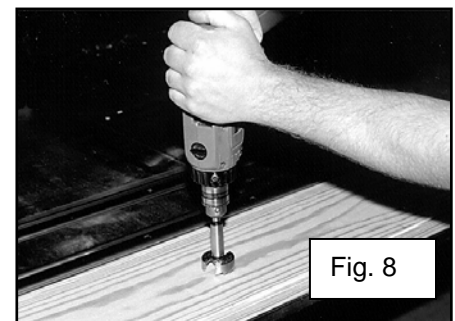

Fig. 8
18. Remove these boards and two strips. Drill these two boards to accept the bed-to-frame bolts and special washers that are recessed in the top surface of the wood. The holes should be 5/8" diameter and the countersink should be 1-15/16" diameter and 3/16" deep. See figures 8 and 9.